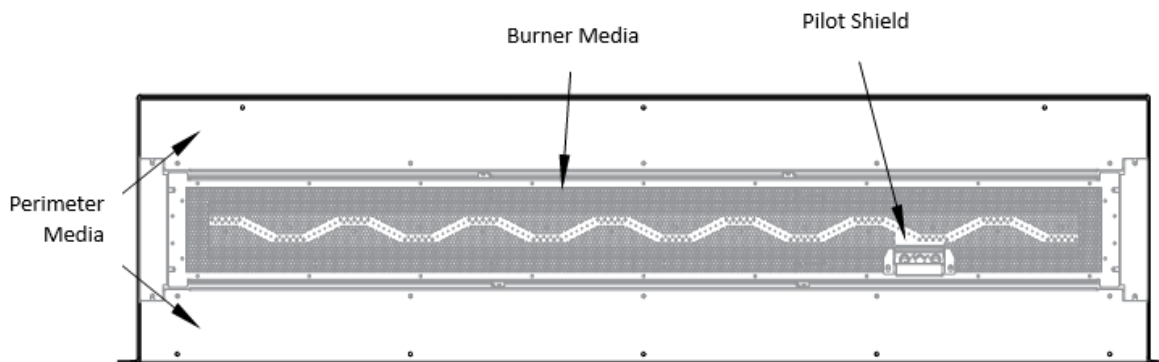

Figure 8.7 - Media Installation
IMPORTANT: It is required that no crushed media blocks the pilot flame from igniting the burner. A blocked pilot may cause a delayed ignition. Figure 8.7 shows an arrow that is pointing to the pilot shield around the pilot. Do not place media inside the media guard to cover or block the pilot.
1. Install an even layer of your chosen media across the whole burner. See Figure 8.7 below.
1. Install an even layer of media across the front and rear perimeter. See Figure 8.7 below.